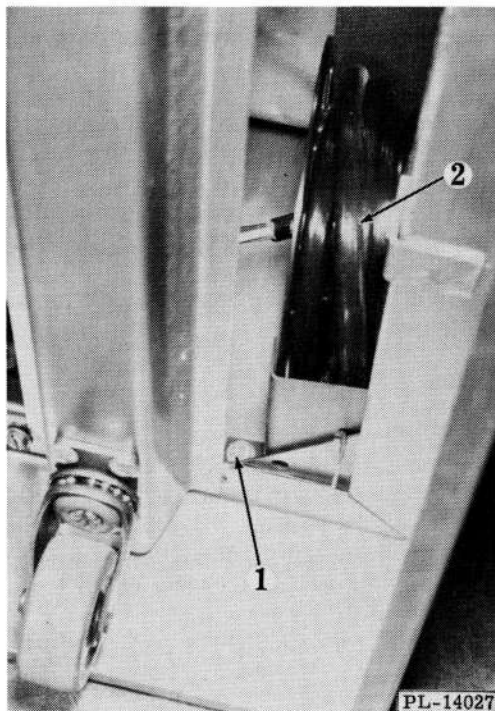

Fig. 44
Electrical Cord with Reel (KDI-58 & KDS-58 Only) (2, Fig. 44)
6. Remove one mounting screw (1, Fig. 44) and slide cord reel to the right and lift out.
1. Replace reel on frame with one mounting screw (1, Fig. 44).